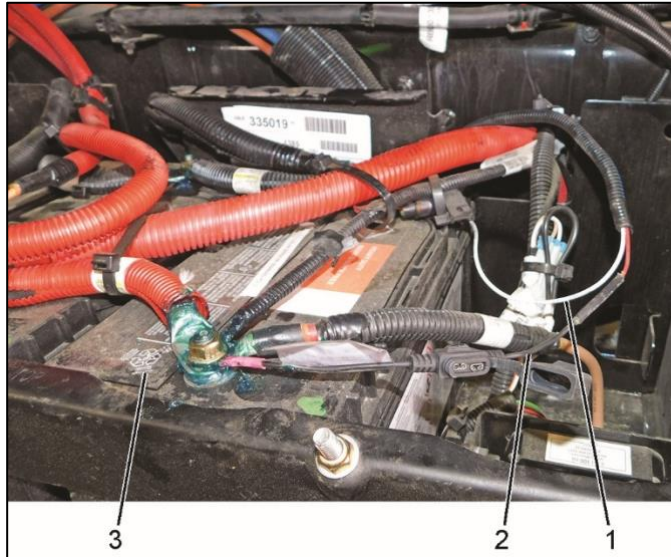

Figure 10
26. Connect positive wire (Figure 10, Item 2) on wiring harness to battery (Figure 10, Item 3).
27. Connect negative wire (Figure 10, Item 1) on wiring harness to battery (Figure 10, Item 3).